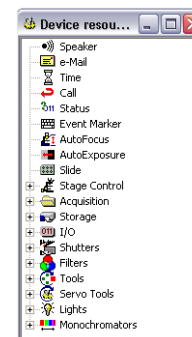

fig.4
4. Drag required device resources to the **Log Document (fig. 4 & 5)**. Go to the **View** menu and select **Device resources...** Drag **Time** from the Device resources window onto the **Device** column in the **Log Document**. When you see a **+**, release to add the device resource. Drag the **Acquisition** and **Storage** folders in the same manner.